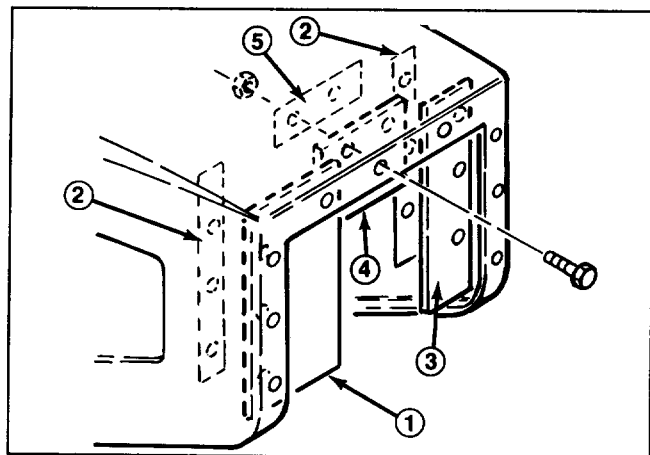

Figure 14
- Secure wide shield to left inside lip of hopper opening with a long flat, (3) #10 - 24 X 1" lg. screws and #10 - 24 flange nuts (Fig. 14).
- Secure narrow shield to right inside lip of hopper opening with a long flat, (3) #10 - 24 X 1" lg. screws and #10 - 24 flange nuts (Fig. 14).
- Secure top shield to upper inside lip of hopper opening with a short flat, (2) #10 - 24 X 1" lg. screws and #10 - 24 flange nuts (Fig. 14). Use (2) mounting holes on right side of opening only.